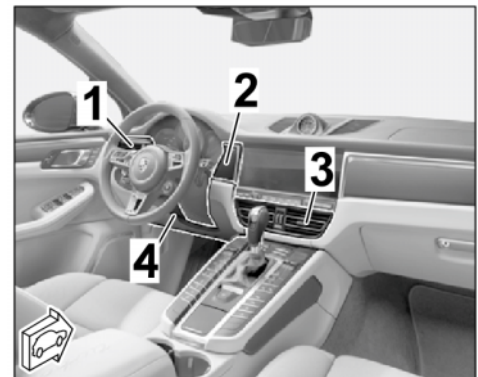

Figure 5 (LHD vehicle)
- 1.5.1 Removing trim panel under dashboard (left side.): ⇒ *Figure 5 (LHD vehicle)-4-*